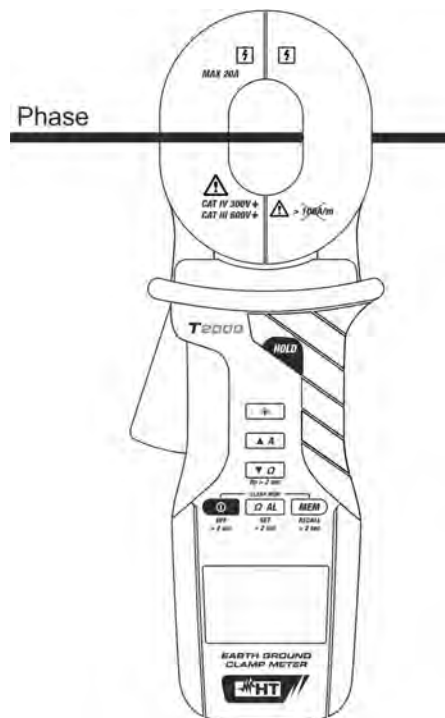

Fig. 19: AC current measurement
3. Open the jaws gently and clamp the cable to be measured (see Fig. 19), then read the displayed result